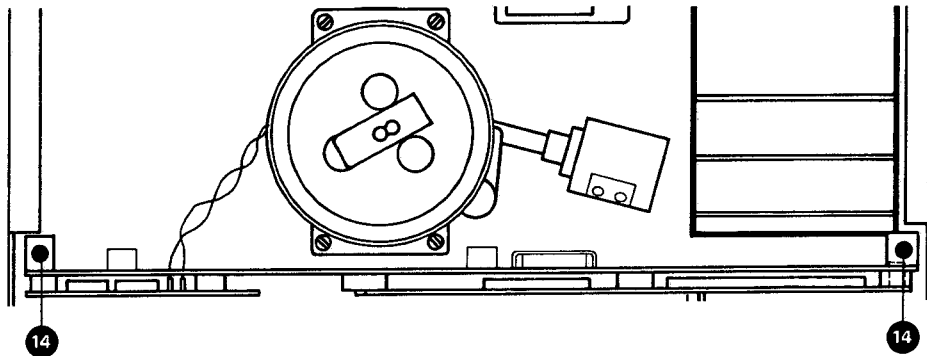

Fig. 3.4.-1
- 2 Schrauben (14) (Fig. 3.4. - 1) lösen.
- Remove 2 Phillips head screws (14) (fig. 3.4. - 1).
- Unplug tacho-head from the capstan speed control board (15).
- Oter les 2 vis (14) (Fig. 3.4. - 1).